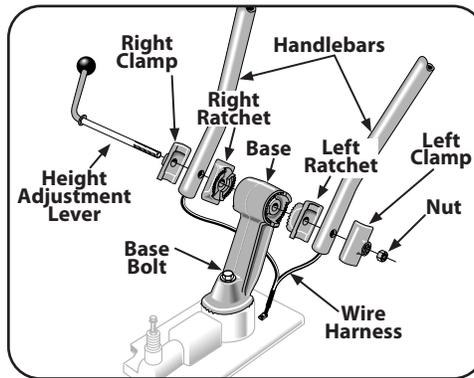

Figure 3-1
1. Disassemble the handlebar assembly. To do this, remove the height adjustment lever by turning the lever in a counter-clockwise direction. See Figure 3-1.
2. Place the handlebar ends on either side of the base, with the wire harness toward the rear of the base. See Figure 3-1.
3. Install the height adjustment lever through the right-side clamp, handlebar end, ratchet and base; then out through the left-side ratchet, handlebar end and clamp. See Figure 3-1. Secure with the nut, but do not fully tighten.
1. Loosen the bolt on the handlebar base and swing the handlebars out to the right side. See Figure 3-1 on page 5.